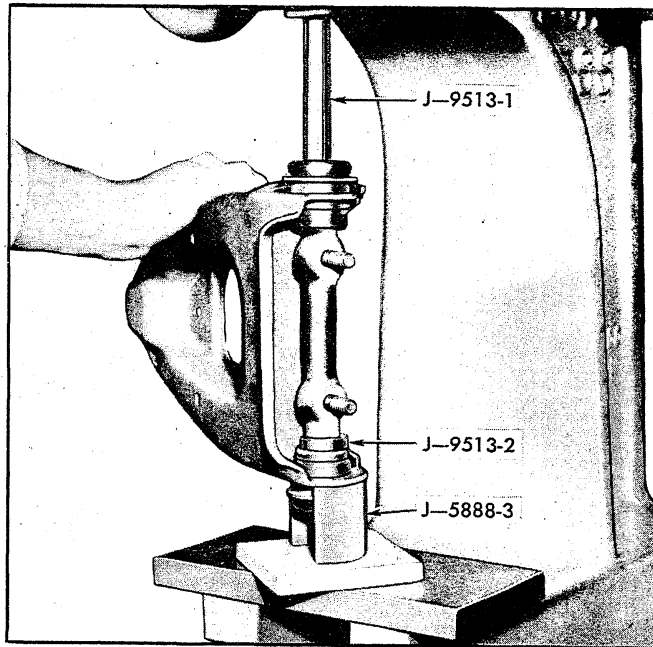

Fig. 39 - Removing Pivot Shaft Bushing - Chevy II
5. Invert control arm, support on J-5888-3 and press out bushing with J-9513-1 (fig. 39).